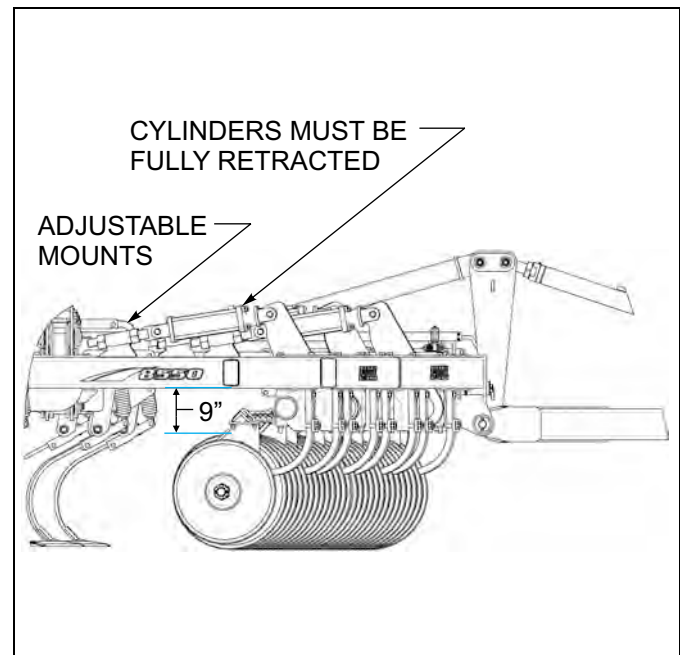

Figure 3-14: Disc Gang Operation
8. Once the cylinders are installed, and are fully retracted- the gangs can be leveled. Measure from the bottom of the frame tubes that go from front to rear to the top of the disc blades and adjust the mount at the base of the cylinder to make this dimension 9" on each gang (**See Figure 3-14.**) Wrenches are provided on the center frame to adjust this with. After gangs are level, tighten the 3/4-10 x 3 bolts and 3/4 lock nuts in the slotted holes of the ball joint links on the center frame. This will keep the center frame gangs in time with each other.